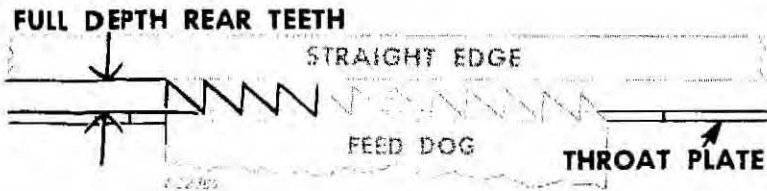
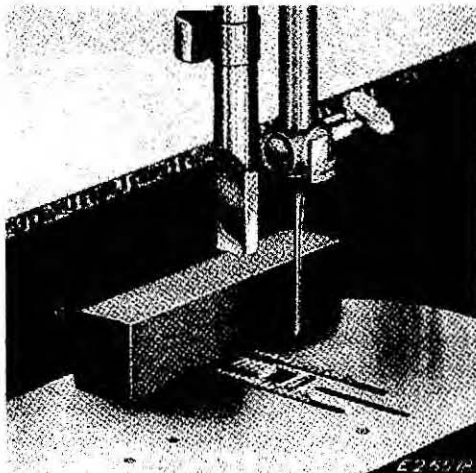
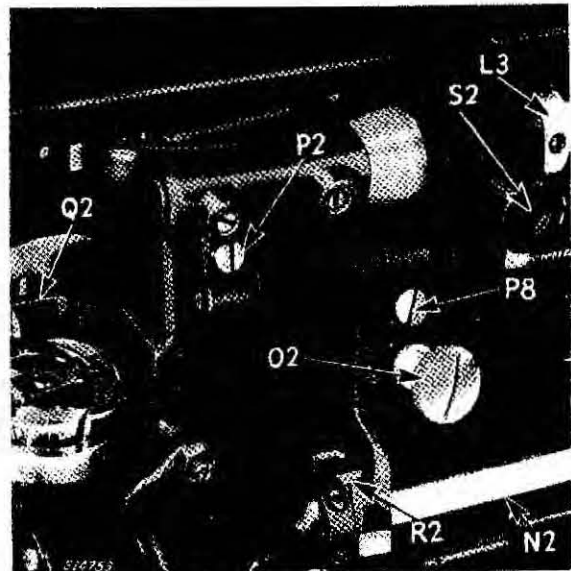
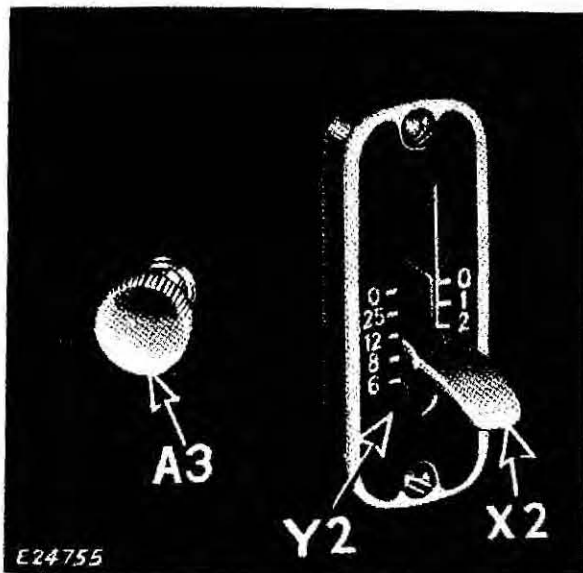

Fig. 38. Feed Dog at Correct Height
Fig. 38A. Feed Dog Height Being Set with Gauge
Fig. 39. Adjusting Height of Feed Dog
Fig. 43. Stitch Regulating Handle
Make sure feed throw-out thumb screw **O2**, **Fig. 39** is tightened in place.
To check the height of the feed dog, tighten feed throw-out thumb screw **O2**, Fig. 39, turning it clockwise as far as possible. Then set the stitch regulator **X2**, Fig. 43, page 33 for the longest stitch.
Turn the hand wheel over toward you until the feed dog is raised to its highest point. In this position, the full depth of the rear teeth of the feed dog, farthest from operator, should project above the top surface of the throat plate, as shown in Fig. 38. Gauge No. G34202 for setting correct feed dog height is shown in use in Fig. 38A.
To set the feed dog at the correct height, loosen clamping screw **P8**, Fig. 39 and raise or lower the feed dog **Q2**, Fig. 39 as required. Then securely tighten clamping screw **P8**.
When setting the feed dog at the correct height as shown in Fig. 38, make sure bottom of feed dog Q2, Fig. 39 clears hook assembly before clamping screw P8 is tightened.
Tighten feed throw-out thumb screw **O2**, Fig. 39.
To adjust the **sidewise position** of the feed dog, loosen feed rock shaft bearing set screw **S2**, Fig. 39 and loosen the two screws on collar **L3**.
The distance between the stitches along the line of feed is termed the **stitch length** and is determined by the setting of the stitch regulator lever **X2**, **Fig. 43** on the stitch indicator plate **Y2**.
When the top surface of the stitch regulator lever **X2**, **Fig. 43** is set level with the "zero" on indicator plate **Y2**, there should be a slight forward movement of the feed so as to get best results in satin stitching.
1. Lock stitch regulator handle at zero position with stop screw **A3**, **Fig. 43**.